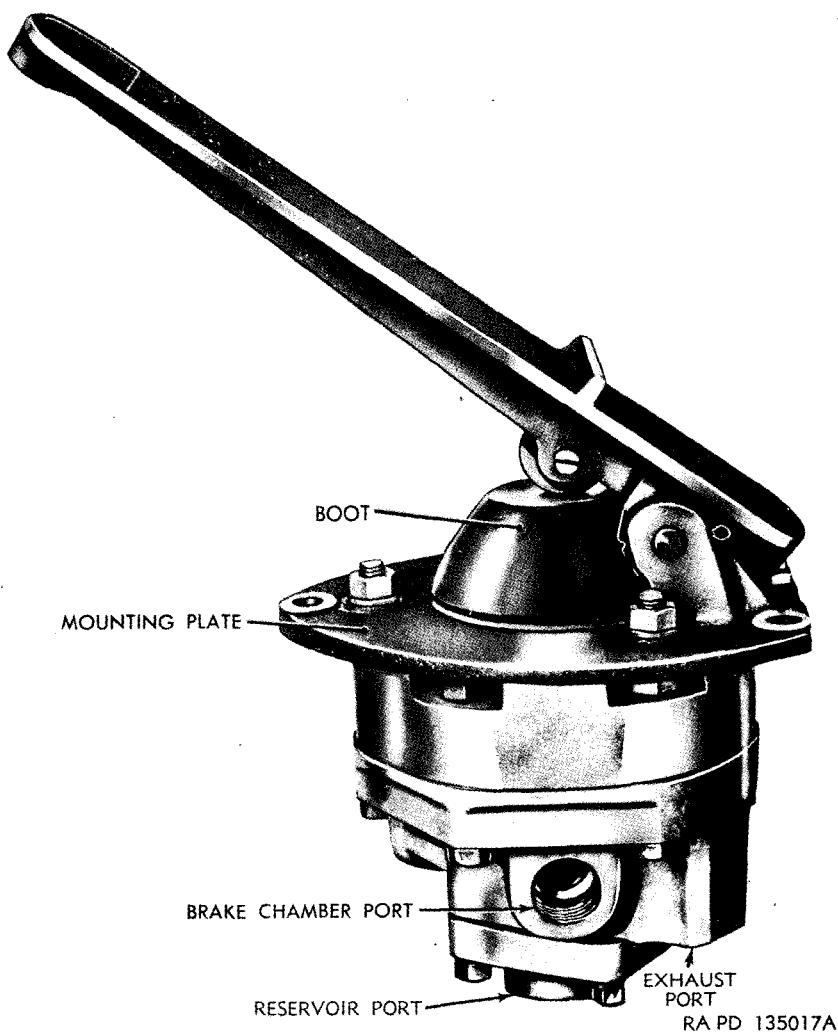

Figure 96. Type D-1 brake valve—treadle-operated.
a. *Description.* Type D-1 brake valves have either a foot-operated treadle or a lever suitable for connecting to a conventional brake pedal (figs. 96 and 97). Movement of the treadle or brake pedal controls the movement of an inlet valve and exhaust valve within the D-1 valve which, in turn, control the air pressure being delivered to or released from the brake chambers on the vehicle. To fully apply the brakes with a type D-1 brake valve, the treadle (or brake pedal) must be fully de-